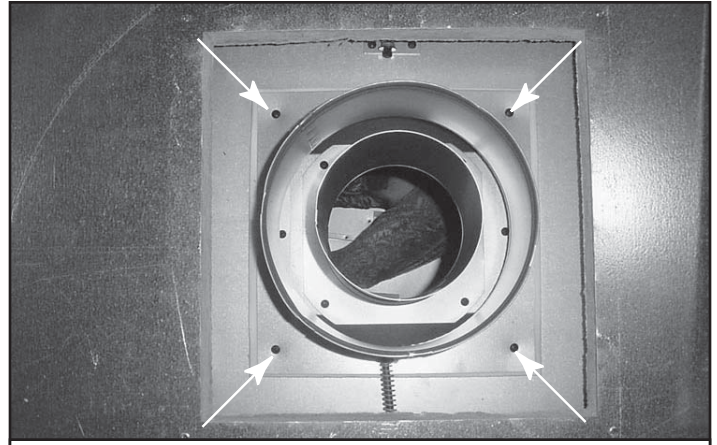

Figure 7.2 Outer Collar - Remove Four Screws
- Remove four screws holding outer collar to appliance top. See Figure 7.2. Remove outer collar.